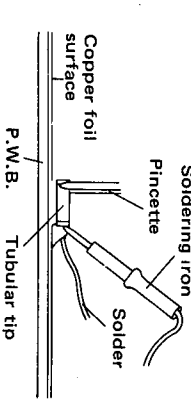

Figure 20-6
- Holding one end of the tip with a pincette, completely solder both terminals of it one after another. See Fig. 20-6.
- When touching the tip with a pincette, hold its terminal but never its body. See Figs. 20-6 and 20-8.